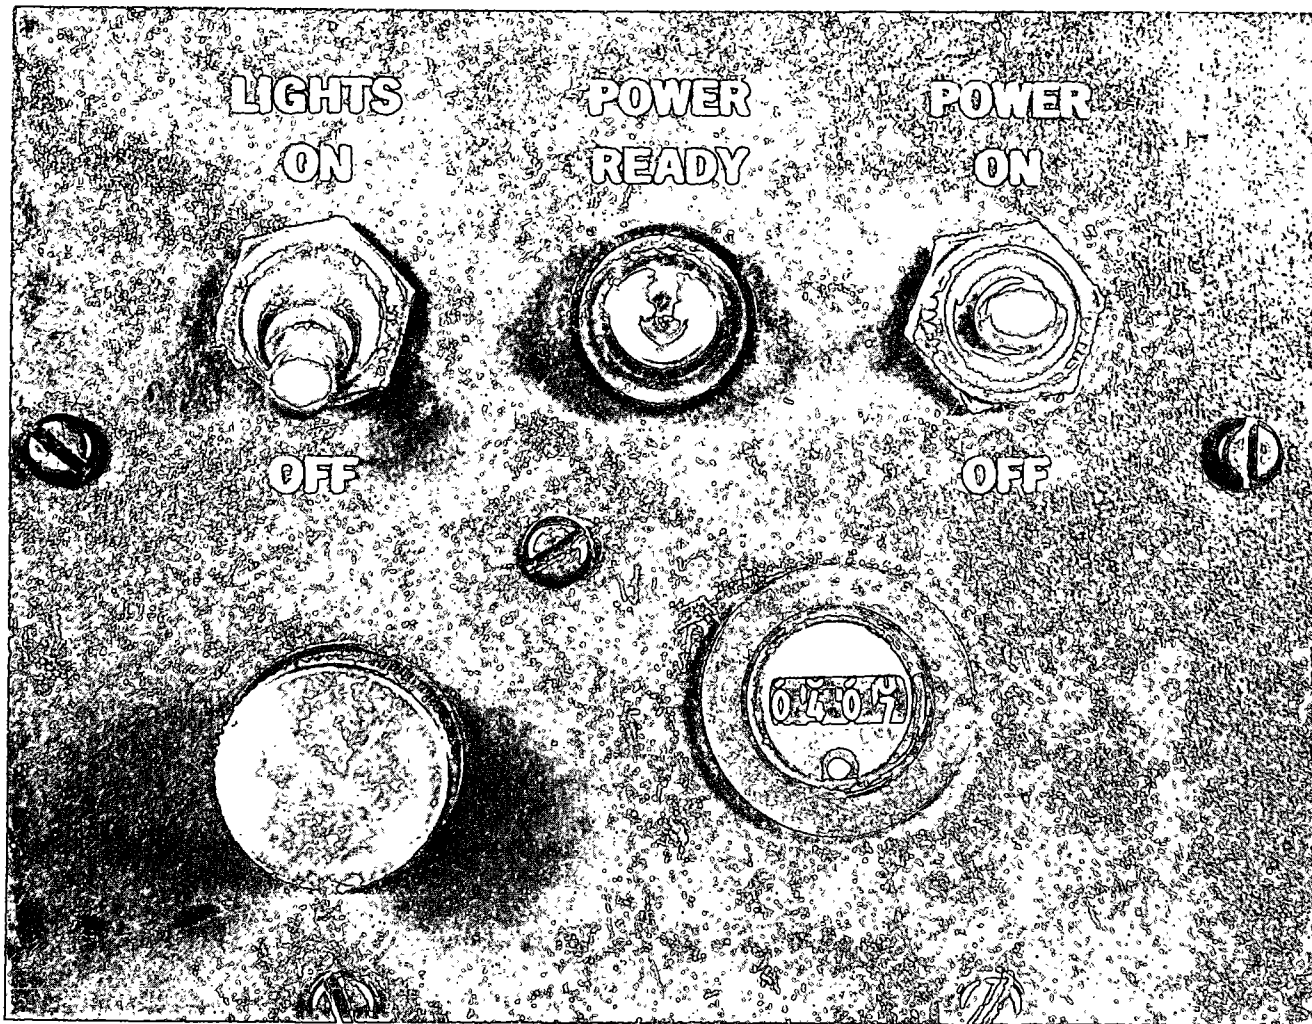

Figure 2-2. Power panel.
a. *Power Panel.* The power panel (fig 2-2), on the upper right section of the control panel, has a toggle switch to turn the computer on and